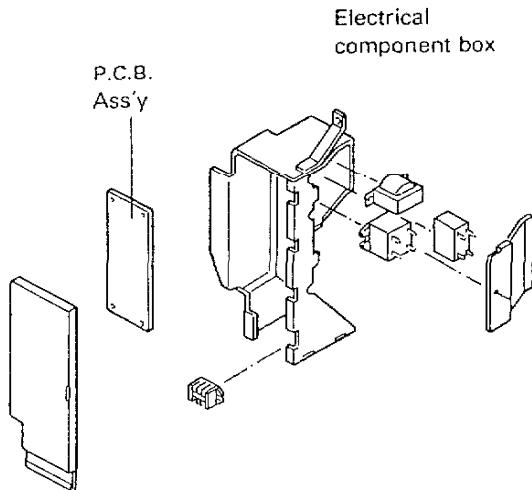

Fig. 5
- 2) Pull the P.C.B. Ass'y. Fig. 5